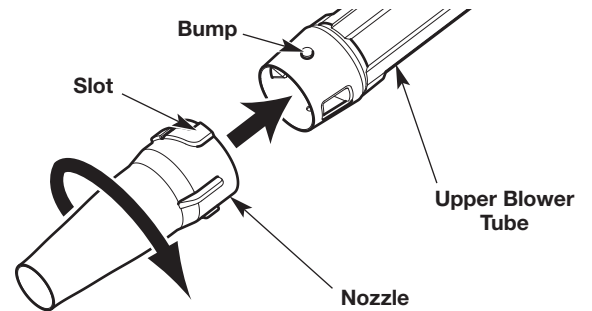
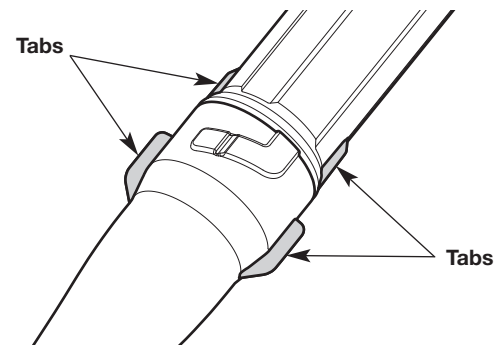

Fig. 2
Fig. 3
2. Align the slots on the nozzle or curved lower blower tube with the bumps on the lower end of the upper blower tube (Fig. 2).
3. Install the nozzle or curved lower blower tube onto the upper blower tube (Fig. 2).
4. While holding the upper blower tube, twist the nozzle or curved lower blower tube clockwise until it locks into place (Fig. 2). The tabs on the upper blower tube should align with the tabs on the nozzle (Fig. 3).